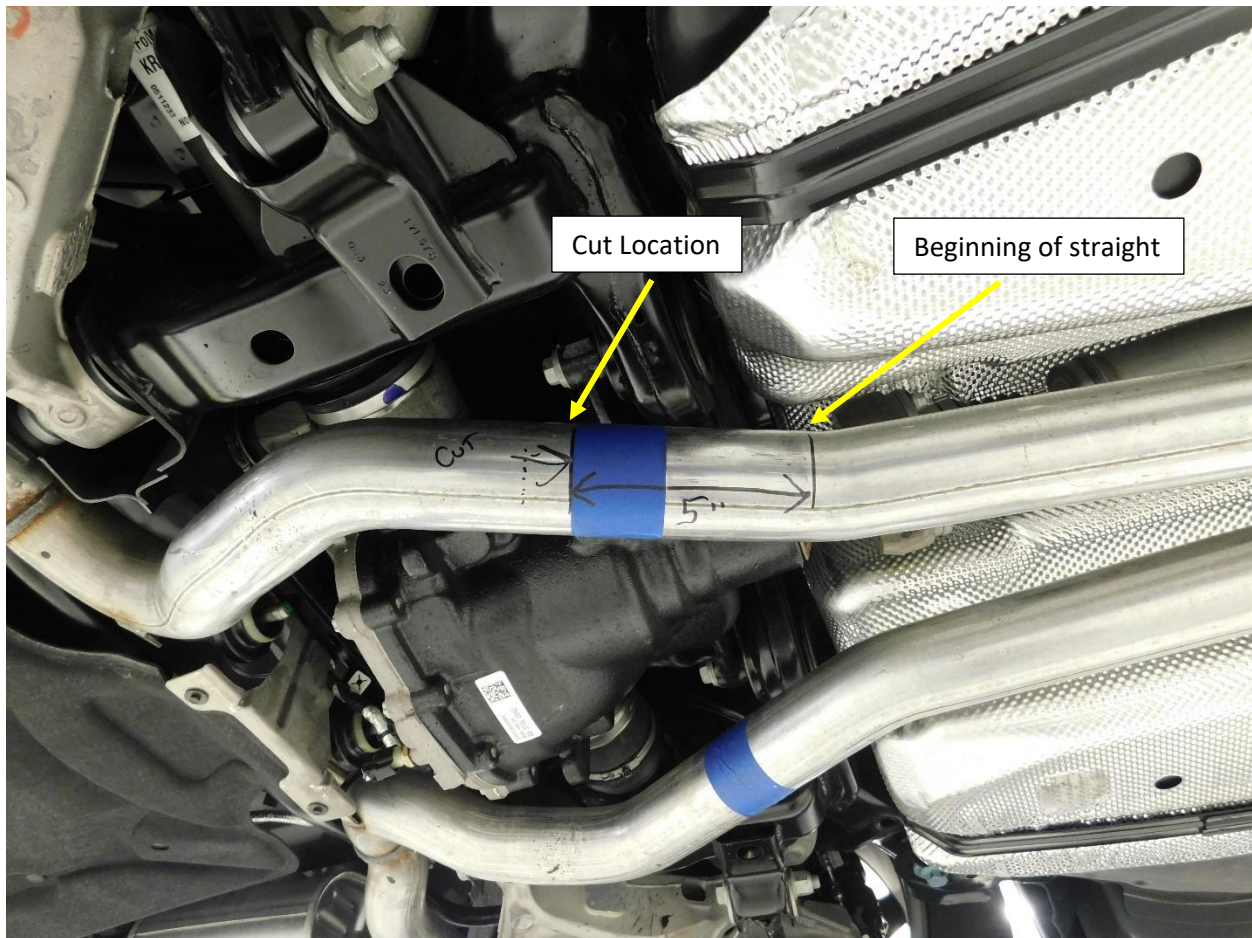

Figure. 5
- Between the resonator and the differential. Measure 5" from the beginning of the straight section of tube after the bend towards the muffler. **Fig.5**
- Use a reciprocating saw or cut off wheel and cut the exhaust at the edge of the tape as shown in **Fig.5**